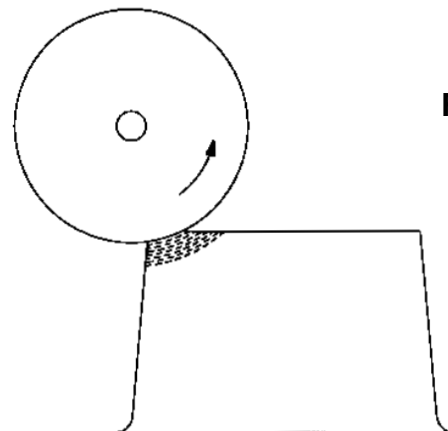

Figure 7
6. Position the cutter wheel as shown in figure 7. Start the wheel on the left edge of the stump and engage the side hydraulic cylinder to make a light cut across the stump.